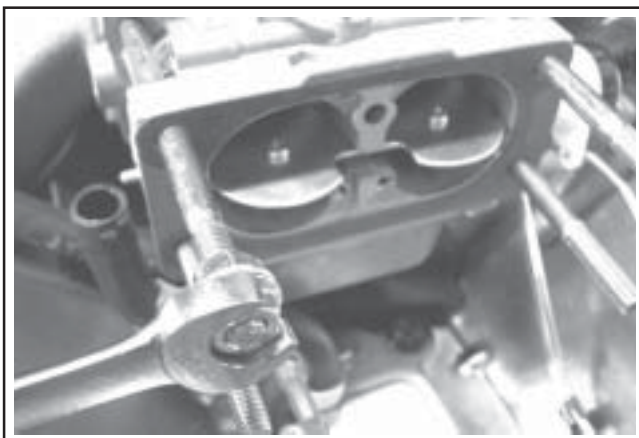

Figure 11-78. Installing Studs and Carburetor (Two-Barrel Carburetor).
3. Assemble carburetor gasket and carburetor to the intake manifold, and start any removed studs. Use two hex nuts locked flange to flange and tighten each of the studs until bottomed/tight. See Figure 11-78.